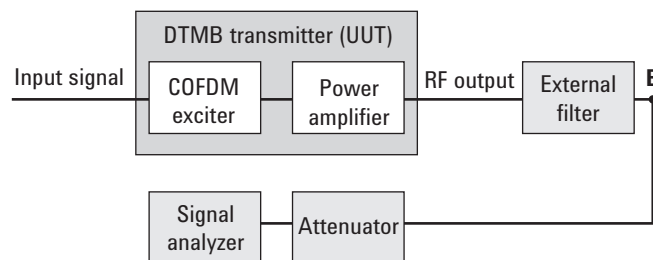

Figure 6. Diagram for spectrum mask measurement on a DTMB (CTTB) transmitter without an output filter
When the transmitter does not have an output filter, an external filter with a band-block filter frequency response should be added after the transmitter for the measurement arrangement shown in Figure 6.
- B. Measure the signal transmitted at point B as shown in Figure 6.
- C. Apply amplitude correction on spectrum value measured in (2) using the filter’s response from (1).